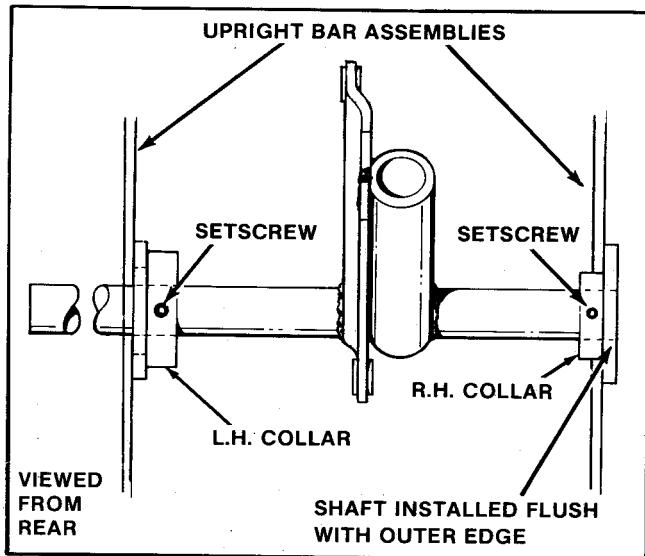

Figure 2
1. Place set collars on the shaft of the lift lever bracket, the larger set collar on the left side, the smaller set collar on the right side of the shaft. The lip (small o.d.) of the left (large) set collar should be facing outward, so that it will fit into the left upright bar assembly on the tractor (figure 2).
2. Insert the shaft of the lift lever bracket through the hole of the left upright bar assembly, then through the hole of the right upright bar assembly (figure 2).
- With the right end of the lift lever shaft flush with the edge of the right upright bar assembly, tighten the right collar setscrew so that there is no side play in the shaft (figure 2).
- Install the left collar so that the lip (small o.d.) fits flush inside the hole in the left upright bar assembly. Tighten the setscrew (figure 2).